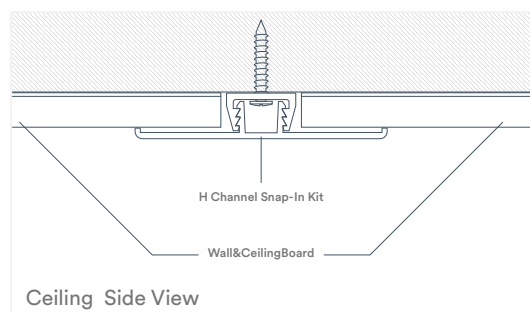

Fig. 9
- If your ceiling is longer than your panel lengths, the panels must be joined in the middle using the H Channel Snap-In Kit (Fig. 9). Refer to the Joining Panels portion of the Trim Applications section of this document for details.